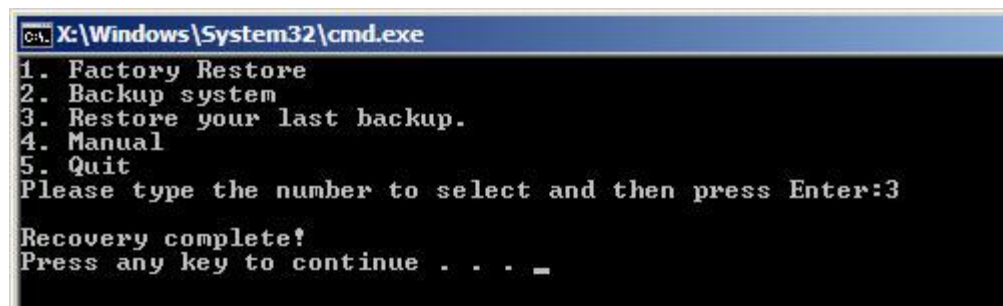

Figure C-32: Restore System Backup Complete Window
Step 9: The screen is shown as in **Figure C-32** when backup recovery is completed. Press any key to reboot the system.